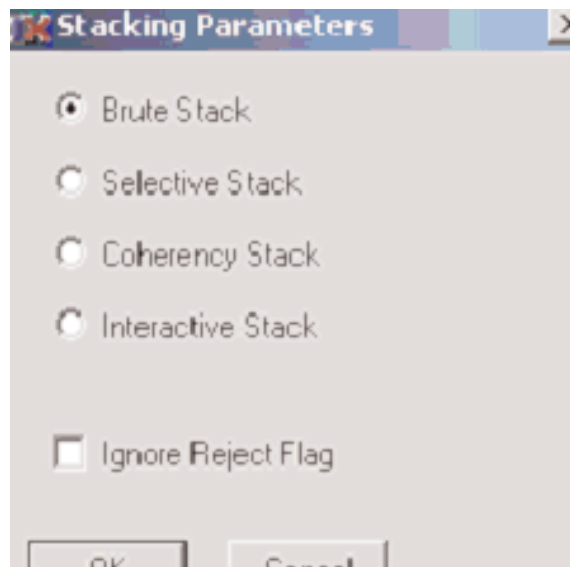

Figure 13: Stacking Parameters
4. The program will now prompt the user to select the stacking parameters, refer to Figure 13. For PS and US data, the brute stack is usually chosen.